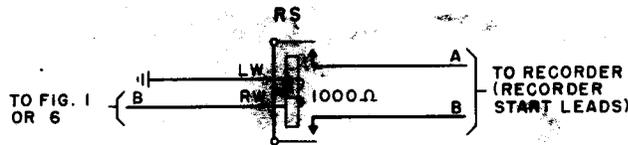

Fig. 5 - Recorder Start Circuit
* Use Fig. 5 when automatic start and stop of recorder is required.